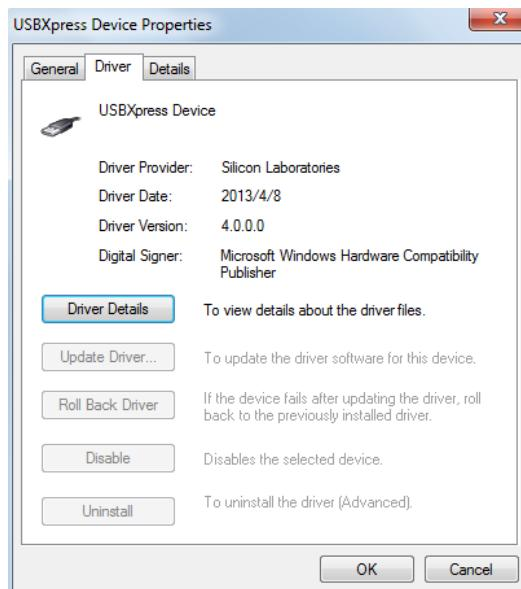

Figure 18: Correct Driver Version
If the PC is running Windows 10, check the driver version of USBXpress Device. Windows 10 automatically installs the older USB driver, which is not compatible. The correct driver version is 4.0.0.0 (see Figure 18).
2. Connect the EVKT-USBI2C-02 or EVKT-USBSPI-00 communication interface to the PC with the USB cable (see Figure 18 on page 16).